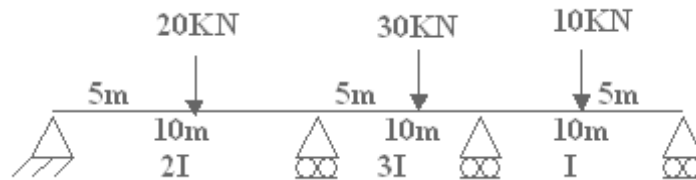

Figure 2
7. Analyse the continuous beam shown in figure2. The downward settlements of supports B and C in t-m units are $150/EI$ and $75/EI$ respectively. Use stiffness method. [8+8]